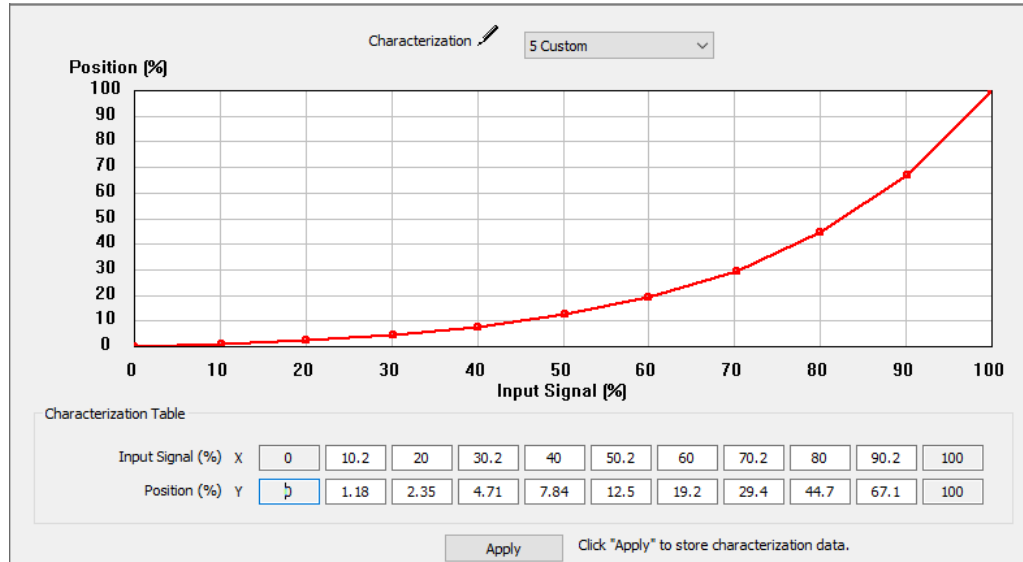

Figure 64 - Custom Characterization
2. Click **Edit** and Figure 64 appears on the bottom of the screen, along with the *Custom Data* field on the *Options* tab. The *Custom Data* field displays the data points once configuration is complete.